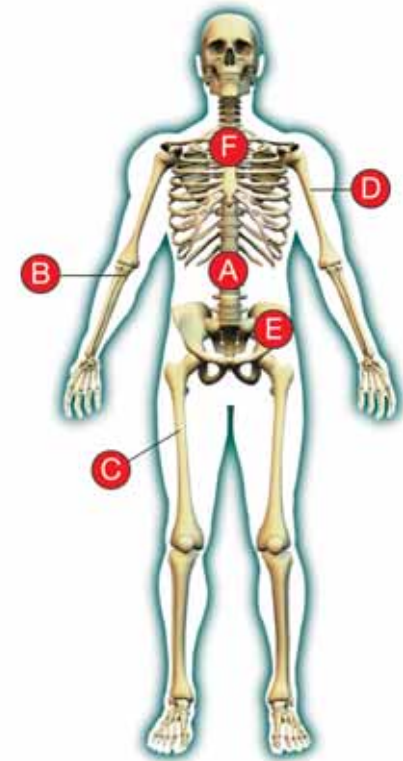

Figure 17.5: Use this diagram to answer question 1.
1. Match the names of the bones below to letters in the diagram (Figure 17.5).